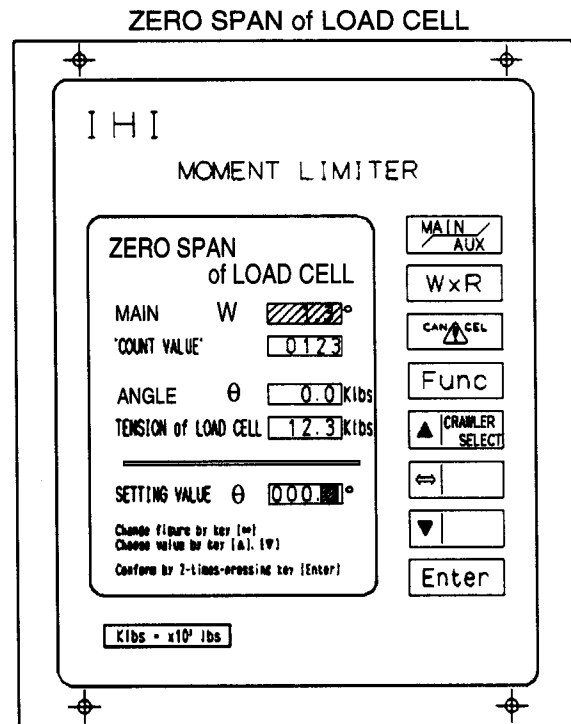

Figure 8
- 4.) Bring the **ZERO SPAN OF LOAD CELL** screen up on the Moment Limiter (see Figure 8).